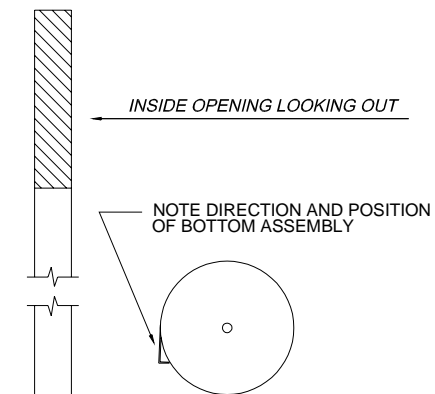

Figure 4.
5.1 Position the door in the opening as shown in Figure 4. Be sure to place the door on a protective material to prevent damage to the curtain.